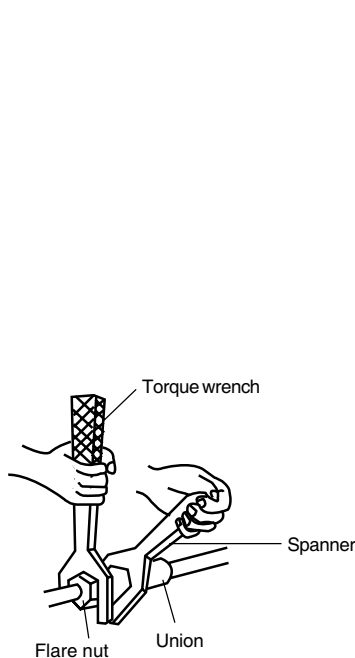

Figure 9
3. Hang the 2 mounting slots of the indoor unit on the upper tabs of the mounting plate and check if it is firm enough.(figure 9. 10)
(Refer to Figure 9)